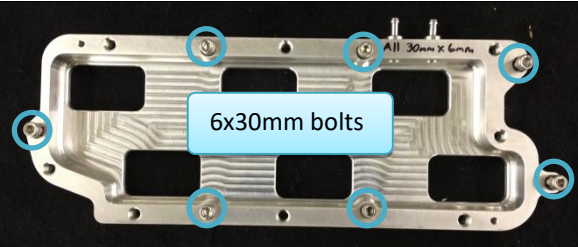

Figure 42: Bolt locations on intake manifold adapter.
28.1. Loosely tighten seven – 6x30mm bolts in intake manifold adapter (Figure 42)